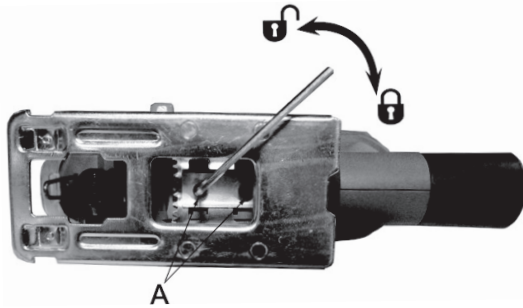

FIG.4
1. The soleplate can be adjusted 45°(left or right) in relation to the saw direction to facilitate contour sawing. Loosen the two clamping screws (A) under the soleplate by the aid of inner hexagon spanner supplied with the tool, adjust the soleplate to the desired angle and retighten the screws (A). (See Fig. 4)